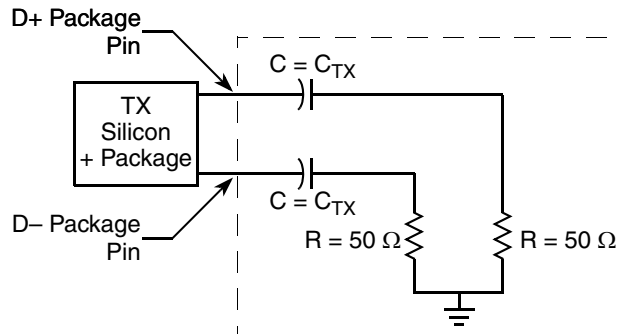

Figure 46. Compliance Test/Measurement Load
1. Specified at the measurement point into a timing and voltage compliance test load as shown in Figure 46 and measured over any 250 consecutive TX UIs.
1. Specified at the measurement point and measured over any 250 consecutive UIs. The test load in Figure 46 must be used as the RX device when taking measurements. If the clocks to the RX and TX are not derived from the same reference clock, the TX UI recovered from 3500 consecutive UI must be used as a reference for the eye diagram.
2. Specified at the measurement point into a timing and voltage compliance test load as shown in Figure 46 and measured over any 250 consecutive TX UIs.
2. Specified at the measurement point and measured over any 250 consecutive UIs. The test load in Figure 46 must be used as the RX device when taking measurements. If the clocks to the RX and TX are not derived from the same reference clock, the TX UI recovered from 3500 consecutive UI must be used as a reference for the eye diagram.